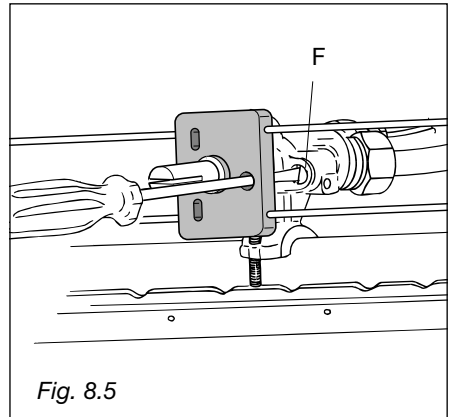

Fig. 8.5
- With a thin screwdriver pass by the hole of microswitch and turn the screw **F** until adjustment is correct (fig. 8.5).